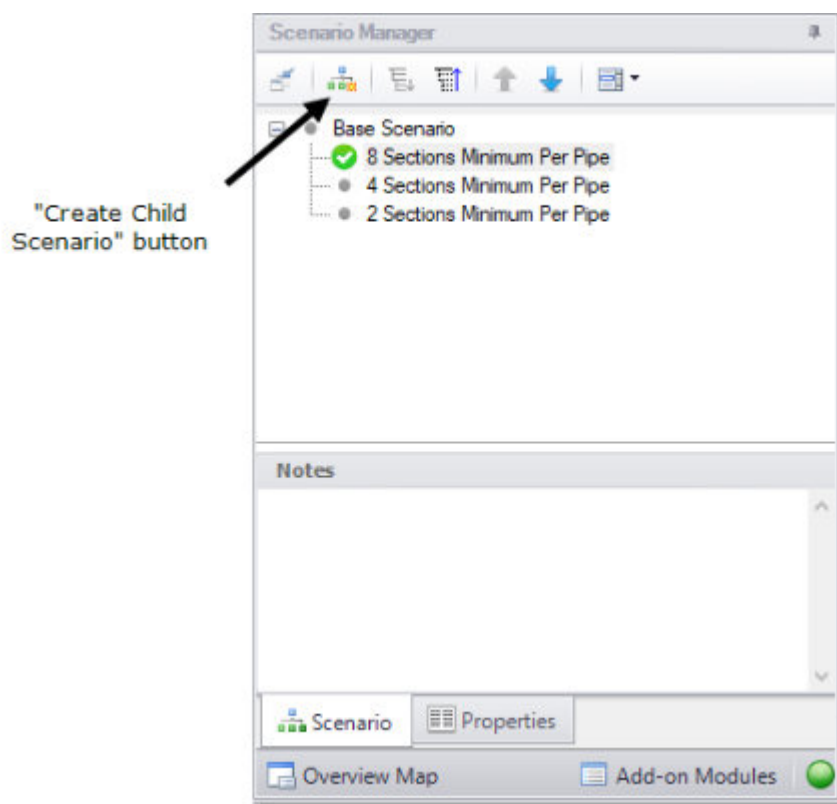

Figure 3.5 Create model variants and keep them organized using the Scenario Manager on the Quick Access Panel
- **Click the Create Child button on the Scenario Manager** on the Quick Access Panel. Name the child "8 Sections Minimum Per Pipe". A new scenario will appear below the Base Scenario in the scenario tree. Select the Base Scenario, create another child, and call it "4 Sections Minimum Per Pipe". Finally, select the Base Scenario again and create a third child called "2 Sections Minimum Per Pipe" (see Figure 3.5). Note that the new child scenario is loaded when it is created using the Scenario Manager on the Quick Access Panel.
Child scenarios inherit data from their ancestor scenarios. As long as the data has not been modified in a child scenario, data parameters in the child scenario will have the same value as their parent. Scenarios can be loaded onto the Workspace by double-clicking their name in the Scenario Manager. The currently loaded scenario is indicated in the scenario tree with a green circle with a checkmark (Figure 3.5). Since the Base Scenario already has been set up with 8 Minimum Sections Per Pipe, the 8 Sections Minimum Per Pipe child does not need to be modified.